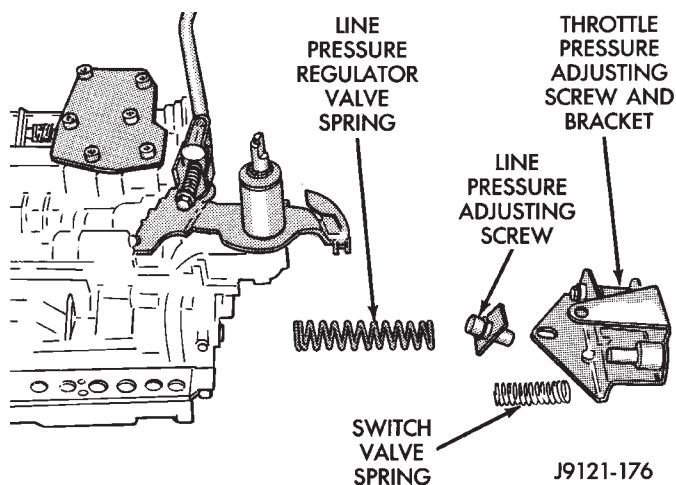

Fig. 102 Adjusting Screw Bracket And Spring Removal
(1) Remove screws attaching adjusting screw bracket to valve body and transfer plate. Hold bracket firmly against spring force while removing last screw.
(2) Remove adjusting screw bracket, line pressure adjusting screw, pressure regulator spring and switch valve spring (Fig. 102). **Do not remove throttle pressure adjusting screw from bracket and do not disturb adjusting screw settings during removal.**